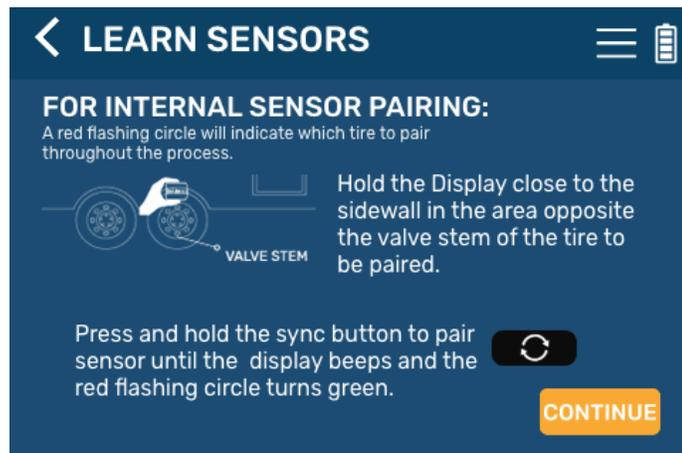

Fig.13
3. After entering the **LEARN ALL SENSORS** mode, hold the LCD display close to the sidewall in the area opposite the valve stem of the tire to be paired (Fig.13).